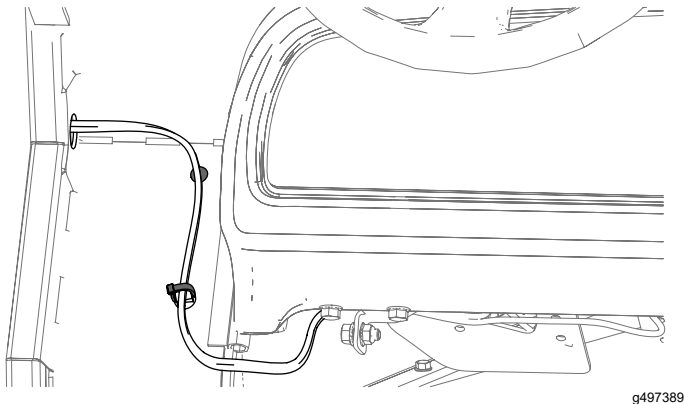

Figure 14
1. Route the wire harness under the control panel; install the clip tie in the lower hole on the side panel and the plug in the top hole (Figure 14).